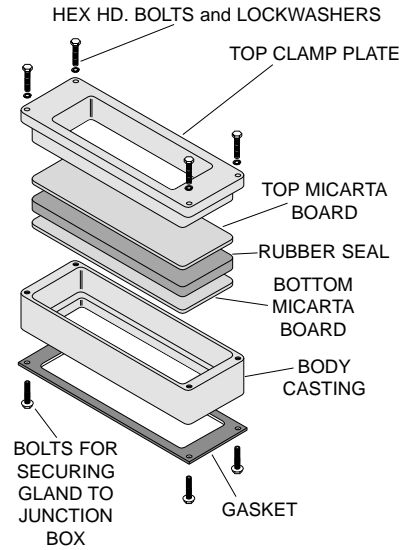

Figure 1
1. Disassemble gland (Fig. 1).
6. Thread cable through top clamp, Micarta boards and rubber seal and reassemble as shown in Figure 1. Seat top clamp plate on top Micarta board and secure with four cap screws.